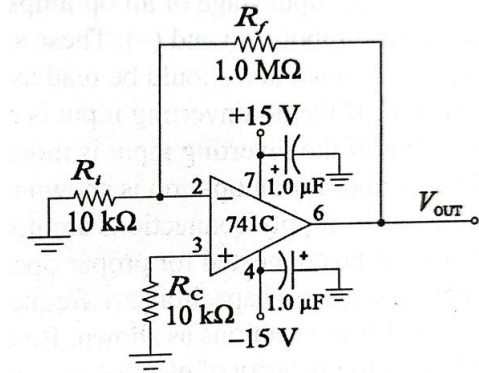

Figure 19-2
- (b) Connect the circuit shown in Figure 19-2. Install the 1 μ F bypass capacitor on the power supply leads as shown. Note the polarities of the capacitors.